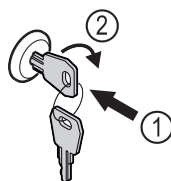

Fig. 206
- ▶ Insert the key. Fig. 206 (1)
- ▶ Turn the key clockwise by 90°. Fig. 206 (2)